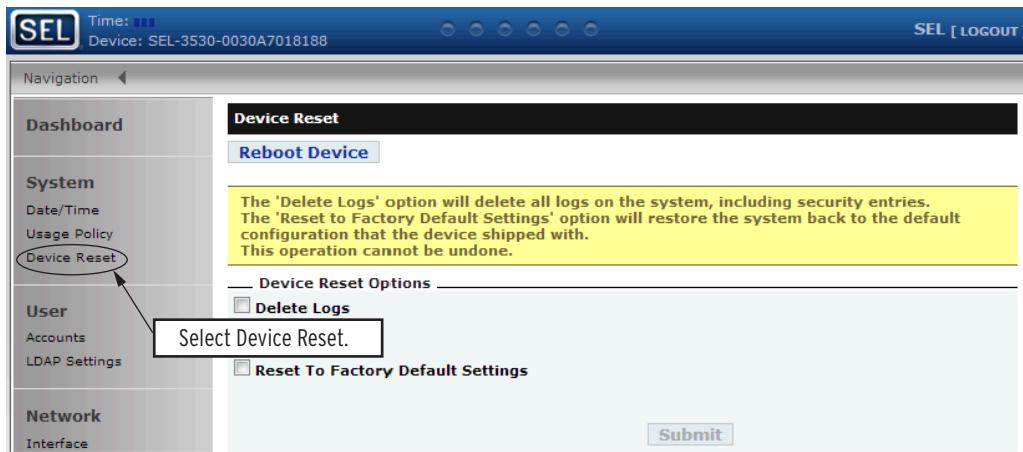

Figure 6.1 Factory Reset Via Web Interface
- Step 3. Check **Reset To Factory Default Settings** (see *Figure 6.1*).